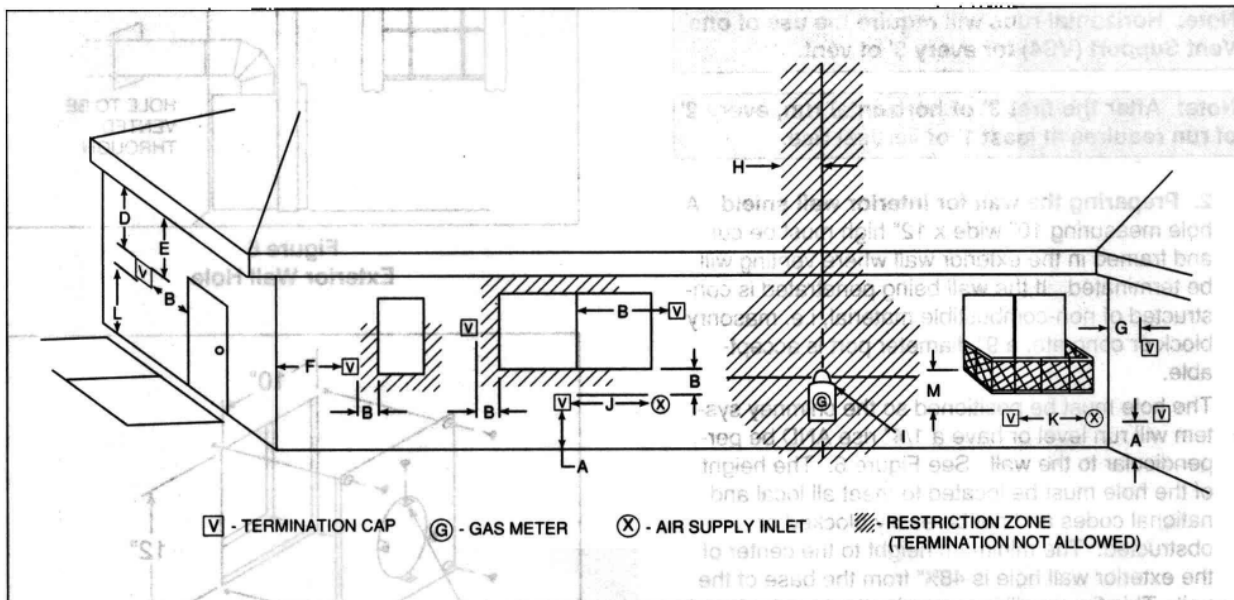

Figure 9
5. Termination Cap. Vent termination must not be recessed into the wall or siding. Figure 9 illustrates termination cap locations and minimum